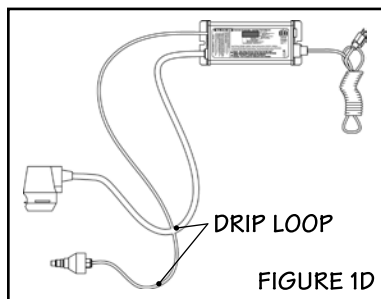
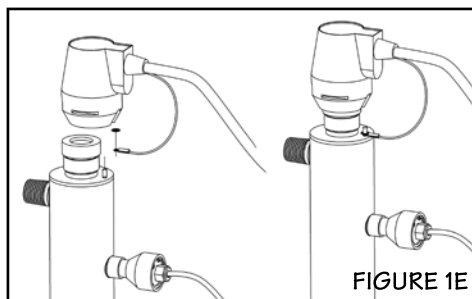

FIGURE 1D
FIGURE 1E
- The ballast should be mounted either above or beside the reactor chamber. Never mount vertically with AC connector at top of ballast to prevent moisture from running down cordage and causing a potential fire hazard. Drip loops in all cordage connected to ballast controller is highly recommended (see figure 1D).
- ⚠ 4. Mount the Silver ICE controller horizontally to the wall, near the reactor chamber. Ideally place the controller above the reactor and away from any water connection point, to prevent any water from potentially leaking onto the controller by means of a leak at a connection point or a “sweating” system. Make sure you allow for a “drip-loop” (Figure 1D) on the lamp, sensor and power cord, again, to prevent any water from potentially entering the controller. Affix the green ground wire to the grounding lug at the top of the reactor vessel and securely fasten with the lugnut provided (Figure 1E).